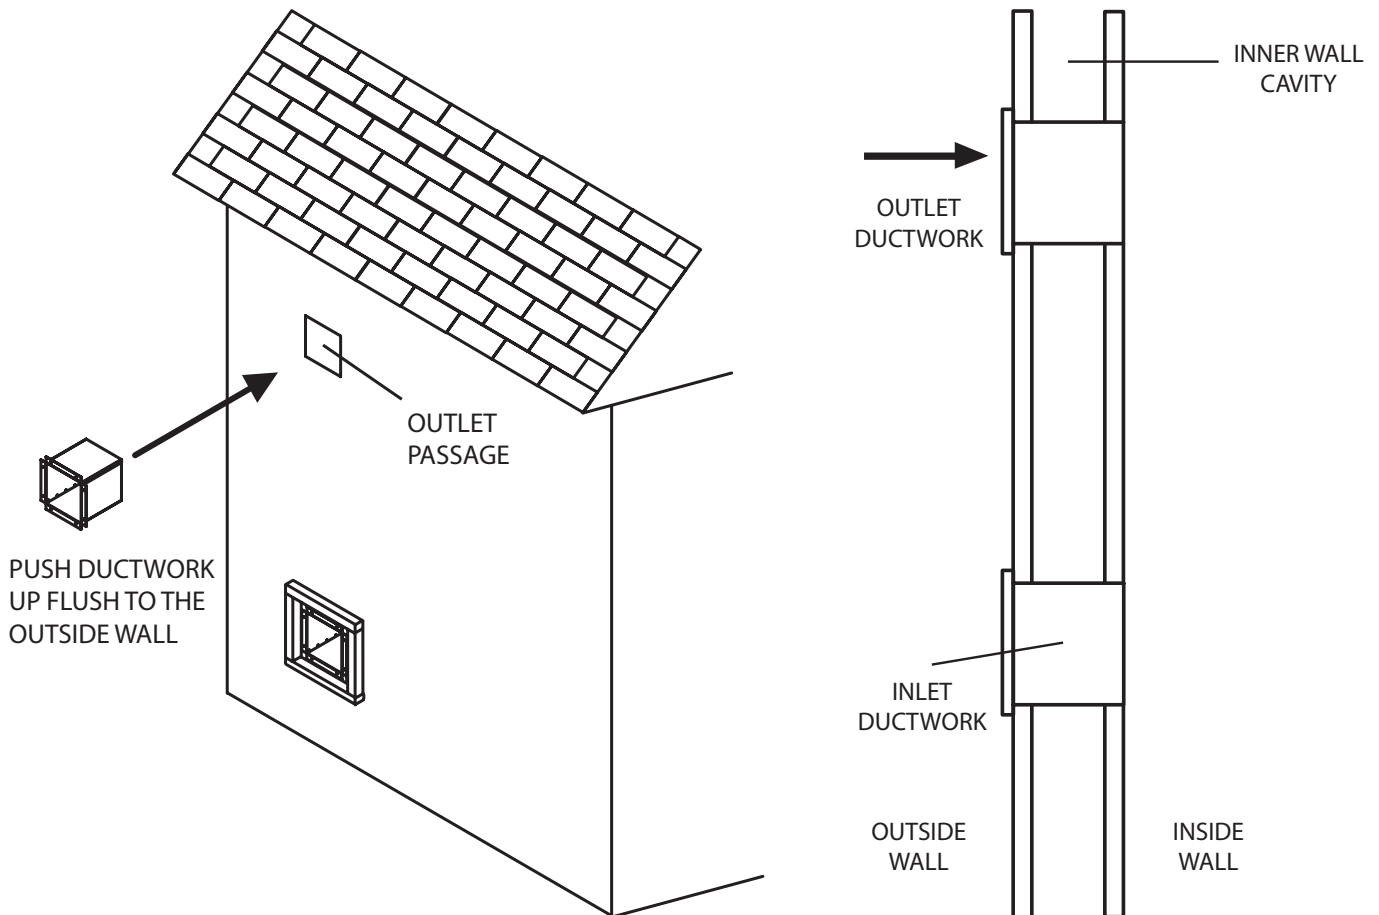

Figure 16. Outlet ductwork installation.
h. Place the remaining square ductwork into the upper, outlet passage as shown in Figure 16.